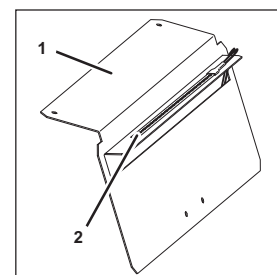

Fig. 36
2. Remove the LED strip (Fig. 36/2) from the retaining plate (Fig. 36/1).
3. Remove any adhesive residue from the retaining plate (Fig. 36/1).
8. Apply the new LED strip (Fig. 36/2) to the adhesive area on the retaining plate (Fig. 36/1).